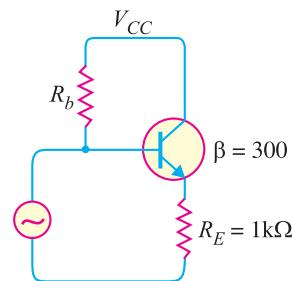

Fig. 13.31
7. In Fig. 13.31, if input and output impedances without feedback are $2 \text{ M}\Omega$ and 500Ω respectively, find their values after negative voltage feedback. **[302MΩ; 1.6Ω]**